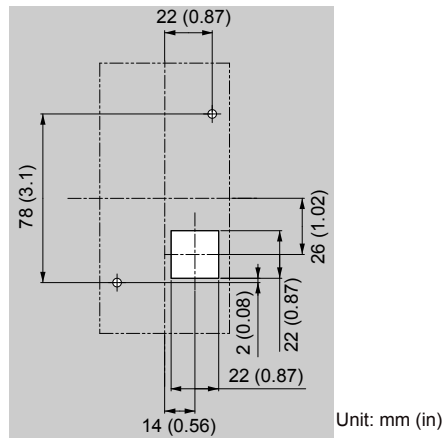

Figure 2.7 Panel Cut-Out Dimensions (External/Face-Mount Installation)
1. Cut an opening in the enclosure panel for the HOA keypad as shown in Figure 2.7.